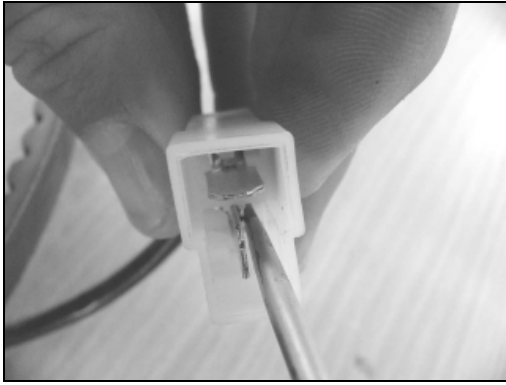
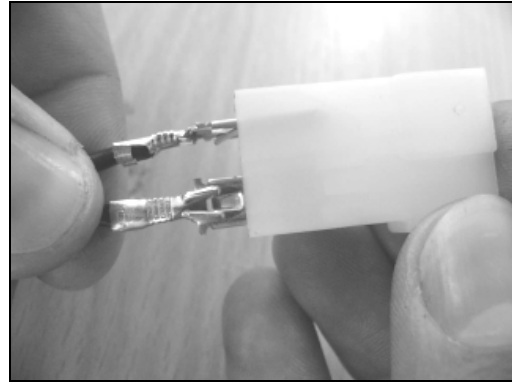

Fig. 51
Fig. 52
- Disconnect the clutch cables and the FASTON connector (Fig. 51, Fig. 52)